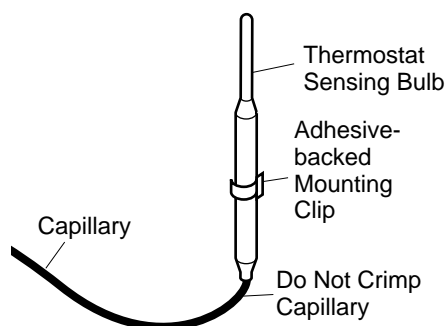

Figure 44 - Positioning the Thermostat Sensing Bulb in the Vertical Position with the Capillary at the Bottom
4. The mounting clip must be a minimum of 3" from bottom of fireplace to prevent crimping of capillary. Once you have decided on a location, clean the area thoroughly. Remove the paper backing from the adhesive on back of mounting clip. Press the clip into the new location so that the thermostat sensing bulb will be positioned vertically with the capillary at the bottom (see Figure 44). Slide the thermostat sensing bulb into the clip.